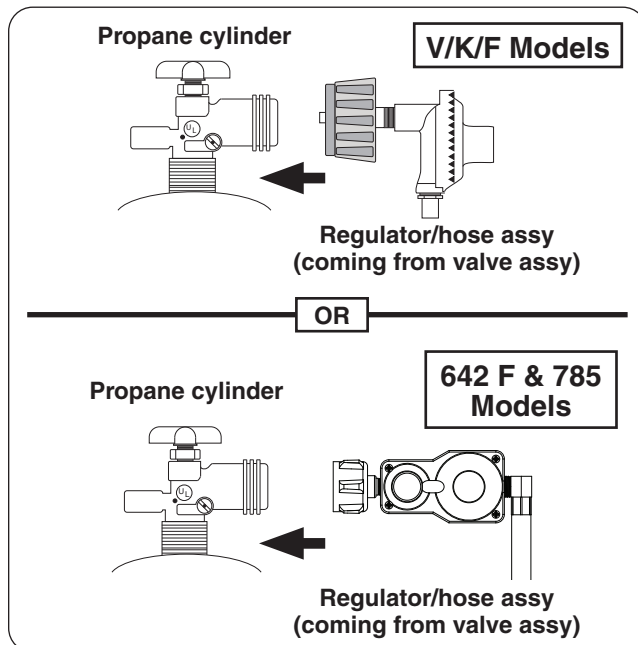

Fig. 35-1 Connecting to an L.P. cylinder
2. Attach the regulator end of the hose assembly to a propane cylinder (not included) and tighten (see Fig. 35-1).